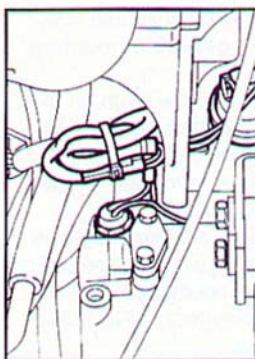

Fig. 338 ▲
- perform the electric connections of the alternator, air conditioner compressor and oil pressure bulb, then clamp the cable so as to prevent cables and belts from becoming entangled (Figs. 338 and 339);